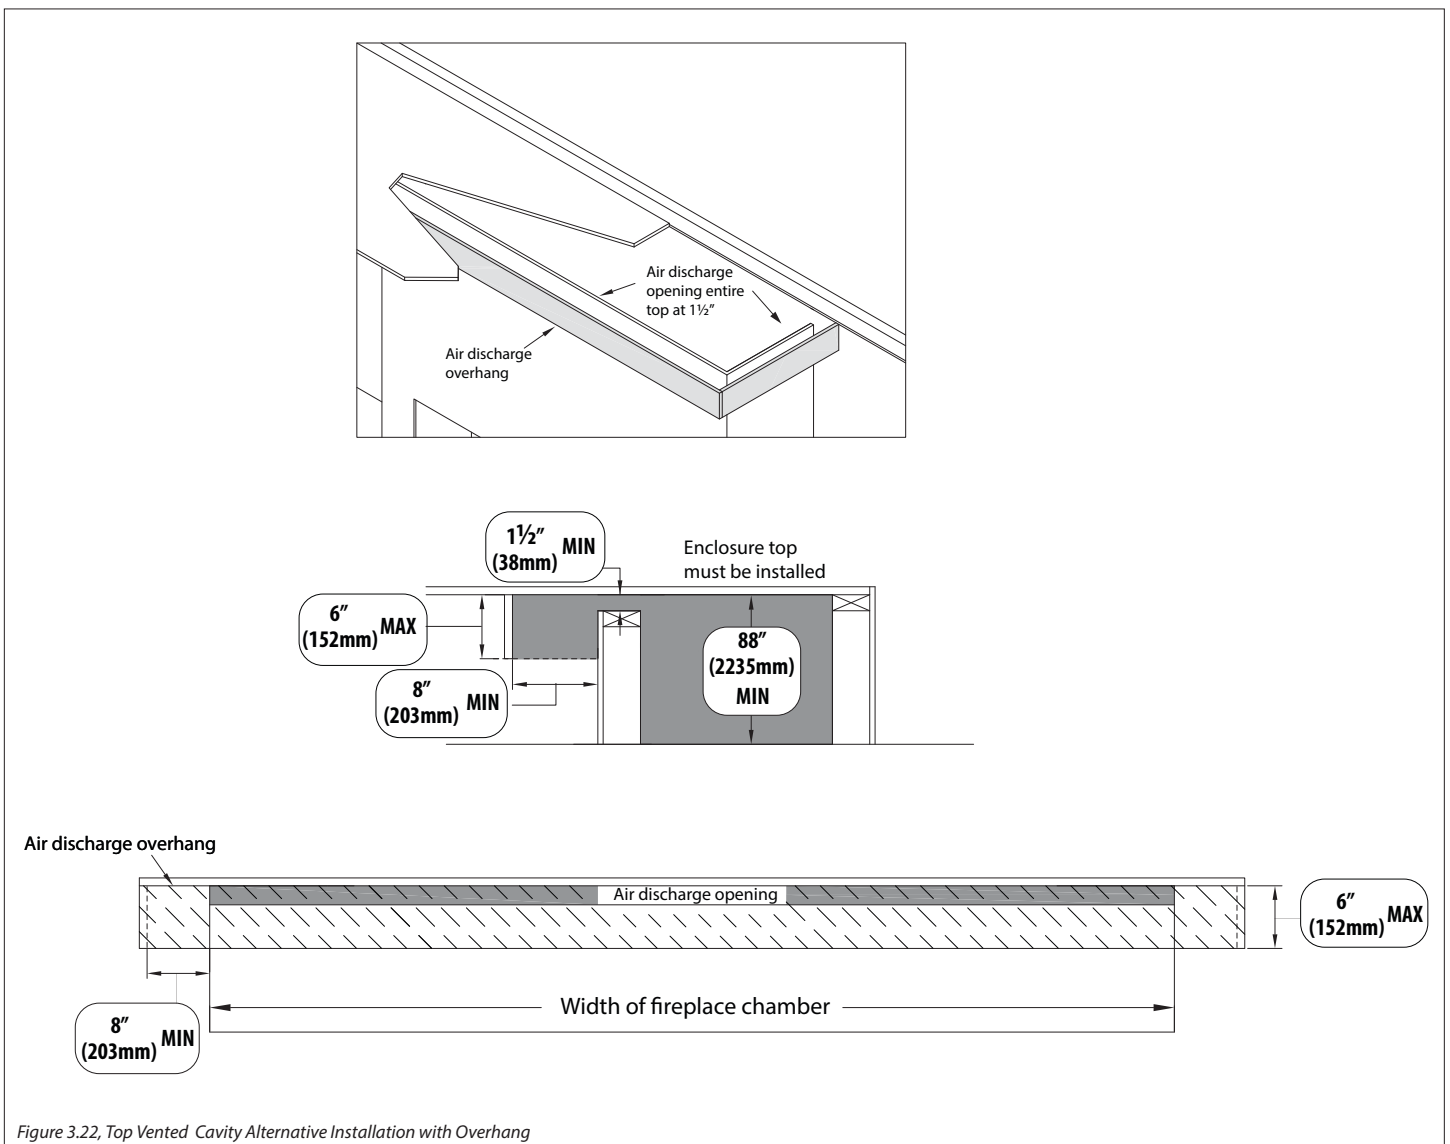

Figure 3.22, Top Vented Cavity Alternative Installation with Overhang
- Figure 3.22 on the following page shows an alternative installation for the top vented cavity option with an air discharge overhang in front of the air discharge opening. This installation method can provide a means to visually hide the air discharge opening.